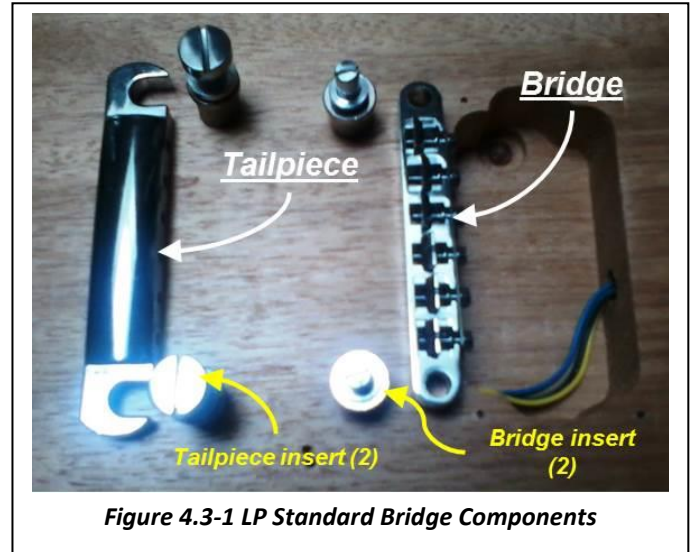

Figure 4.3-1 LP Standard Bridge Components
Figure 4.3-1 shows each of the Bridge components and their orientation to the bridge pickup. The inserts are “press fit” into pre-drilled holes with the lower Bridge insert hole containing the ground wire from the Audio pocket – ensure this wire is present and that the end is **not** tinned/soldered. The length of the ground wire into the mounting hole can be adjusted by gently pulling on the wire from inside the Bridge pocket.
6. Place the bridge onto the adjustment screws with the individual string adjustment screws facing the neck (Figure 4.3-1).